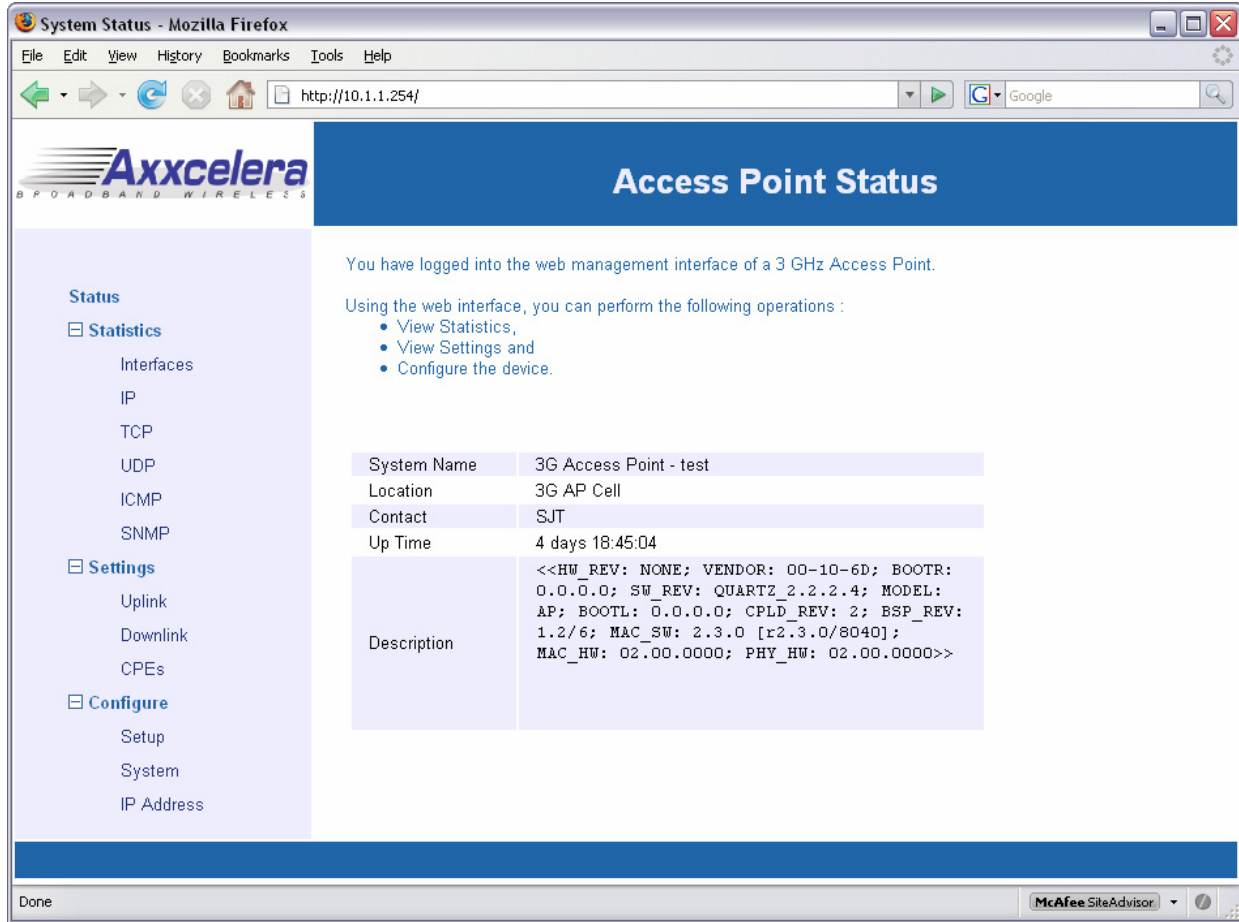

Figure 4-2: Single-Channel Access Point Status screen
- 5) When the **Access Point Status** screen appears (Figure 4-2:), continue with the setup process by using the links from the screen menu, starting with configuring the IP Address settings.